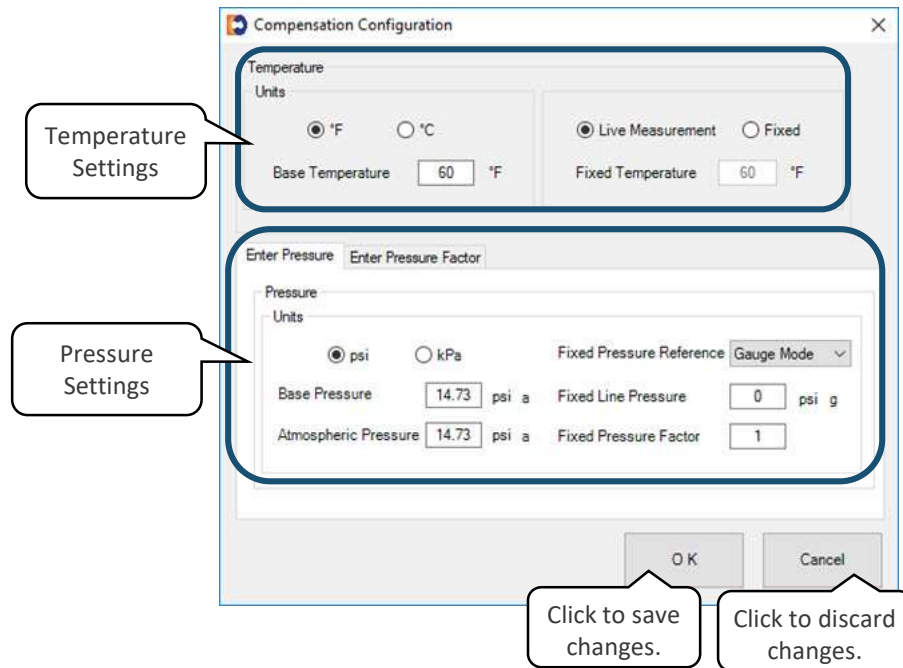
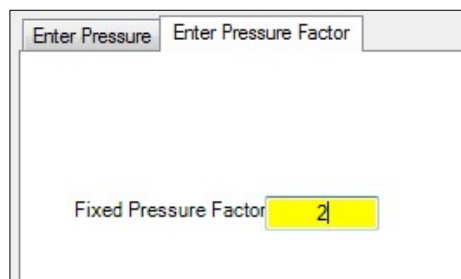

Figure 23: Compensation Configuration screen
Figure 24: Fixed Pressure Factor alternate screen
2. Use the **Compensation Configuration** screen (Figure 23 and Figure 24) to configure the parameters as described in Section 3.4.1 and 3.4.2.
| Fixed Pressure Factor | User configurable or calculated | For example, if you enter a value for the Fixed Line Pressure parameter, the unit calculates the Fixed Pressure Factor parameter value. The Fixed Pressure Factor parameter can be set on the Enter Pressure tab or on the Fixed Pressure Factor tab (Figure 24). |